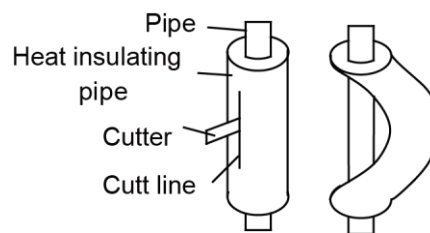

Figure 3-2-5
- (4) When bending the pipe, do not bend it as is. The pipe will be collapsed. In this case, cut the heat insulating pipe with a sharp cutter as shown in Figure 3-2-5, and bend it after exposing the pipe. After bending the pipe as you want, be sure to put the heat insulating pipe back on the pipe, and secure it with tape.